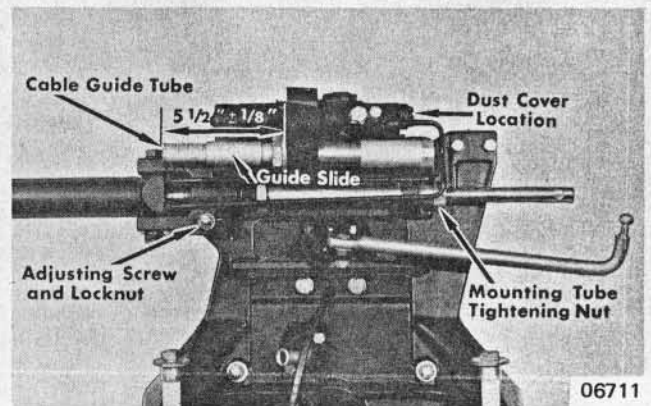

Figure 6. Pre-adjusted Dimension
2. Check Ride-Guide cable mounting tube. Pre-adjusted dimension should be $5\frac{1}{2}'' (14\text{cm}) + \frac{1}{8}'' (3.2\text{mm})$. (Figure 6)